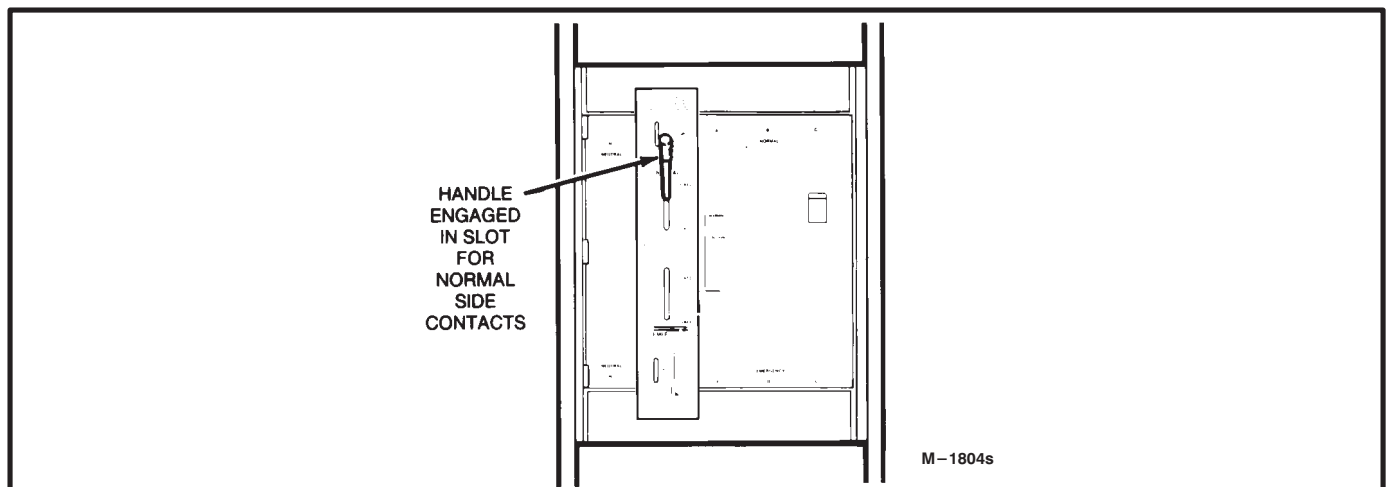

FIGURE 3-5. MANUAL OPERATION
2. A manual operating handle is provided with the transfer switch. The handle is a steel rod or tube, with a knob or hand grip on one end. On standard transfer switches (Figure 3-5), there are two manual operator slots—one for the Normal contacts and one for the Emergency contacts.